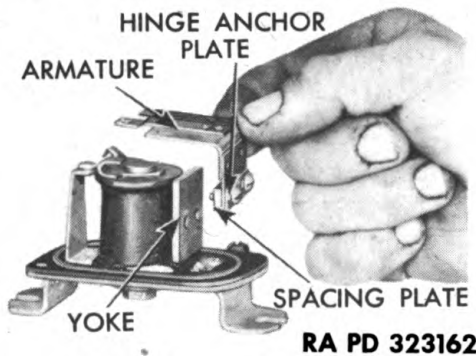

Figure 163 — Removing Relay Armature
b. **Remove Armature** (fig. 163). Remove two screws and lock washers attaching armature to yoke, and lift off armature with hinged anchor plate and armature spacing plate.
a. **Install Armature** (fig. 163). Attach hinge anchor plate, armature, and armature spacing plate to yoke, in order mentioned, by installing two screws and lock washers. Do not tighten these two screws until contact points are adjusted (par. 68).